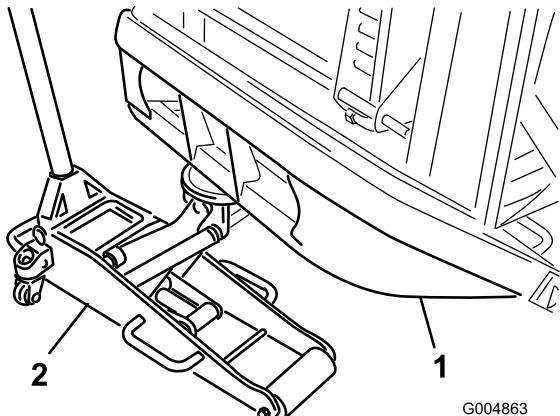

Figure 15
2. Place a jack stand under each wheel motor and a floor jack under the rear bumper (Figure 15) or suspend from a overhead hoist.